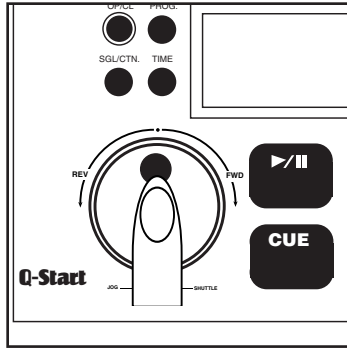
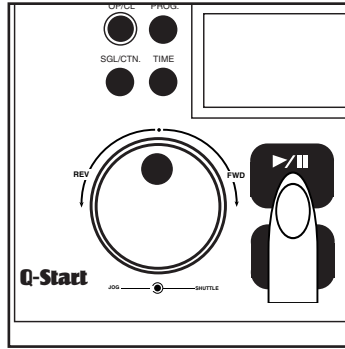

Fig. 9
Fig. 10
This feature allows you to scroll through a track to set a starting cue, sample, or loop point. To use the scroll function you must first be in Pause Mode or Cue Mode. Once you are in Pause or Cue mode, use your finger tip to turn the **JOG WHEEL (7)** to scroll through the track (figure 9). Turning the wheel in a clockwise direction will advance the frame search and turning the wheel in a counter-clockwise direction rewinds the frame search. When you use the **JOG WHEEL (7)** the monitor (headphone level) function allows you to hear what you are scrolling through. Once you reach your desired starting point you can set a cue (starting) point by pressing the **PLAY BUTTON (9)** as in figure 10. Pressing the **CUE BUTTON (FIG. 10)** will now return you to the point you just set.